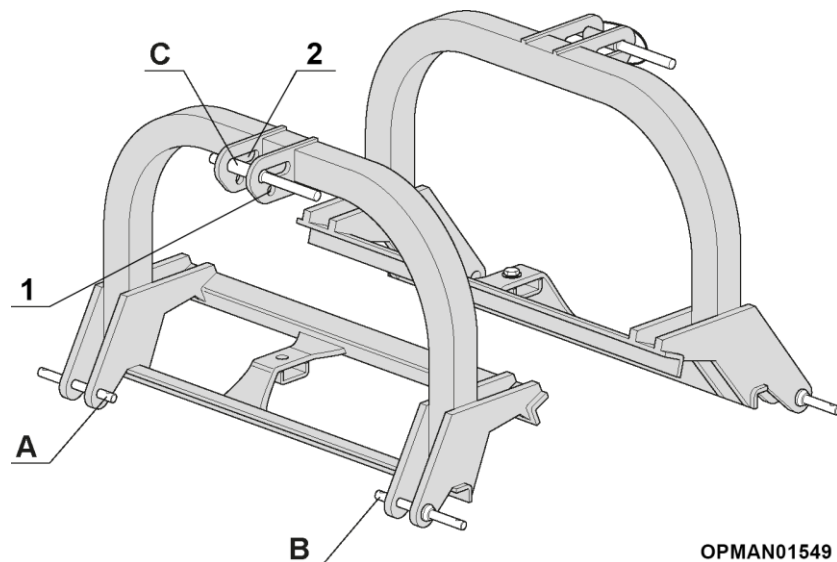

Figure 6
Proceed as follows for the coupling (see Figure 6):
- A fixed hole (ref Figure 6 (1)); which should be used for transport purposes.
- A slotted hole (ref Figure 6 (2)); which should be used for working purposes.
The fixed hole (ref Figure 6 (1)), should be used during transport purposes when the machine is out of work and is required to be lifted off the ground. The fixed hole ensures the machine remains as stationary as possible and will not move when its carried by the tractor.
The slotted hole (ref Figure 6 (2)), should be used when the machine is operating at work. The slotted hole allows the machine to follow ground contours more effectively, giving better operation and final finish of the cut material.